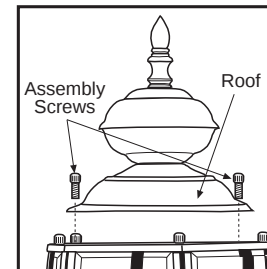

Figure 1
- For two screw and multiple screw assembly roofs, remove assembly screws on roof and insert bulb(s). Reattach roof. (see figure 1 and 2)